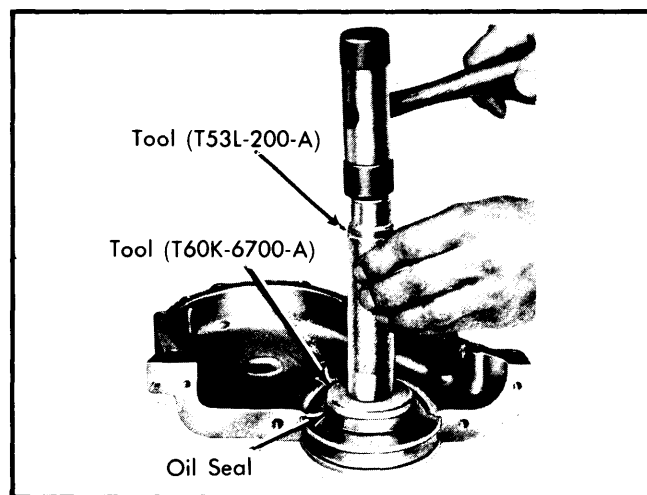

Fig. 8 Using Special Tools to Install Front Cover Oil Seal
**Removal & Installation** — Drive out oil seal with a pin punch. Clean recess in front cover. Coat new seal with grease and install. Drive seal in until it is fully seated in recess. See Fig. 8. Inspect to ensure spring is properly positioned in seal.